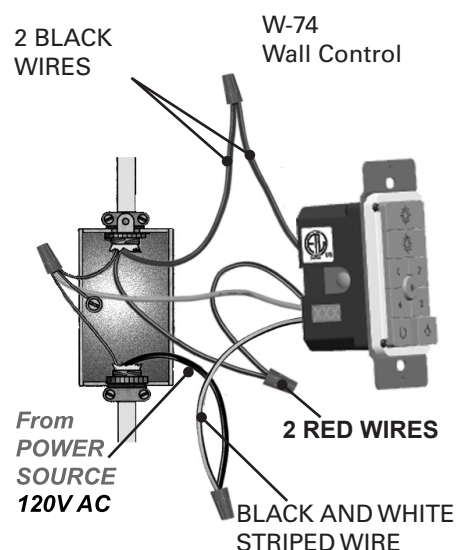

Figure 5
6. Remove the two remaining wires from the three-way switch. Connect the black wire of these wires to a black wire on the W-74 control. Secure the splice with a wire nut. The remaining red wire is to be connected to the other red wire on the W-74. Secure the splice with a wire nut. Figure 5